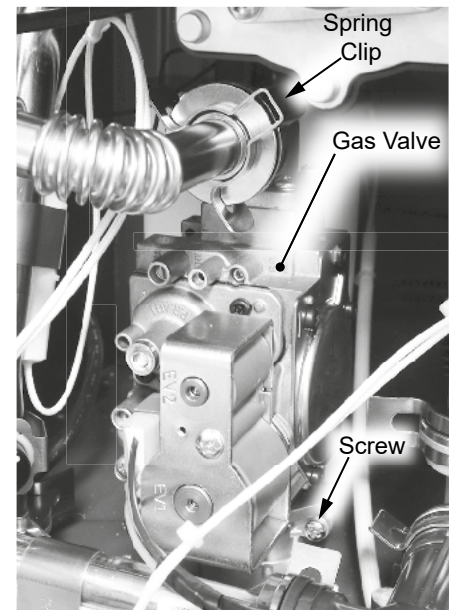

Figure 3 - Gas valve location
- 8 Locate the gas valve at the bottom left side of the water heater. See Figure 3.
- 9 Locate and remove the spring clip securing the gas valve to the gas piping system. Note its orientation and place it aside for reinstallation. See Figure 3.
- 10 Remove and keep the screw at base of the gas valve. See Figure 3.